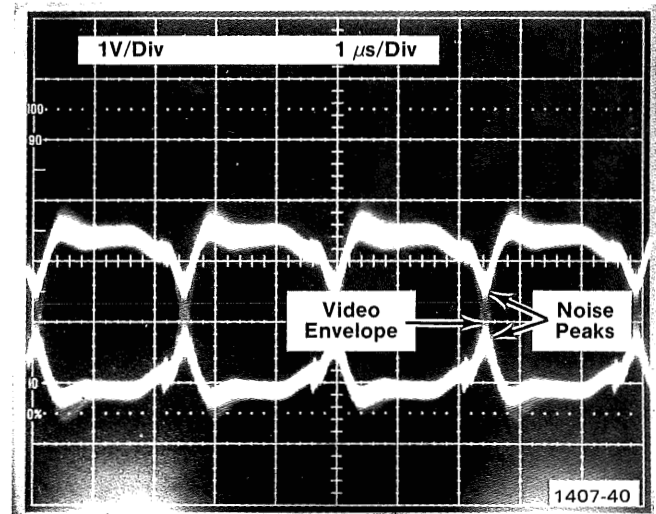

Fig. 3-13. Test oscilloscope waveforms produced after Hard Copy Threshold R137 adjustment.
g. Press the 4610 Copy button and adjust Hard Copy Threshold control R137 to obtain a display similar to Fig. 3-13. The video information at the points of the two waveforms must overlap to generate a TARSIG signal to obtain a hard copy; but too much overlap will include noise, which darkens the copy.